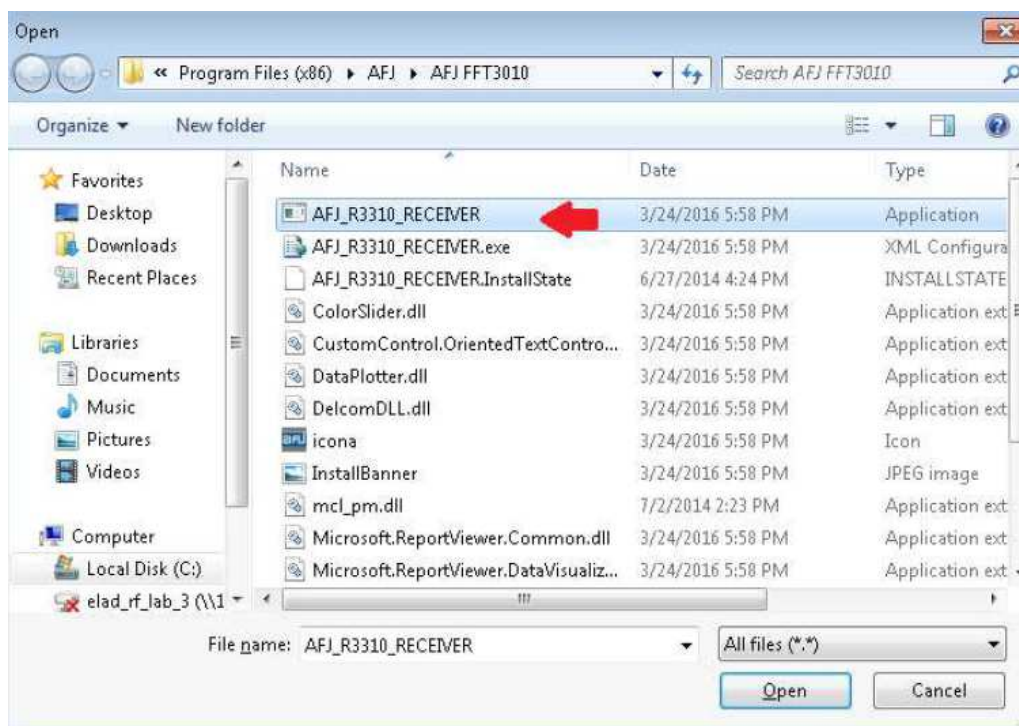

Fig. C.40: Browse window
STEP 7 – Please browse in *C:\Program Files (x86)\AFJ\AFJ FFT3010 (AFJ FFT3030)* folder, select *AFJ_R3310_RECEIVER.exe* application and then click Open (Fig. C.40).